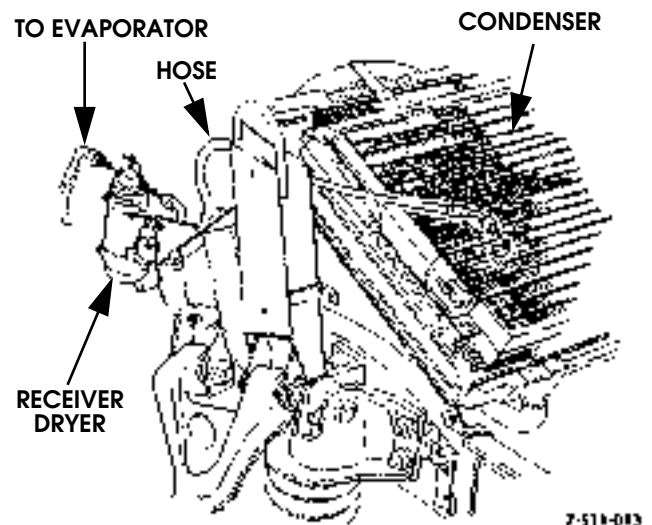

Figure 11-13: Receiver/Dryer Location
2. Disconnect hose from condenser and remove O-ring. Discard O-ring (Figure 11-13).
2. Disconnect hose from receiver/dryer and remove O-ring. Discard O-ring (Figure 11-13).
4. Secure hose to receiver/dryer. Using two wrenches for equalized support, tighten to 11-13 lb-ft (15-18 N•m) (Figure 11-13).